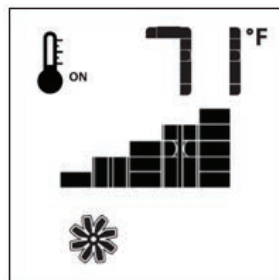

Fig. 65
If the Heater is equipped with a hot air circulating fan, the speed of the fan can be controlled by the Proflame2 System. The fan speed can be adjusted through six (6) speeds. To activate this function use the Mode Key (Fig. 52) to index to the fan control icon (Fig. 64). Use the Up/Down Arrow Keys (Fig. 52) to turn on, off or adjust the fan speed (Fig. 65). A single “beep” will confirm reception of the command.